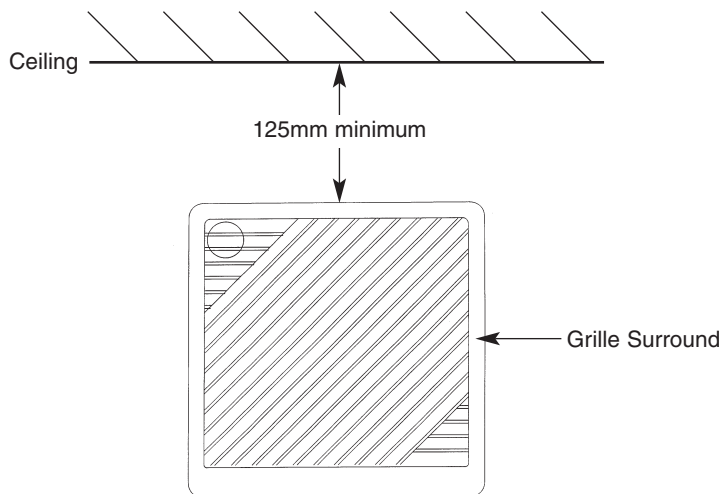

Fig. 3
13. The internal grille surround must be sited at least 125mm away from any wall or projecting surface (Fig. 3).